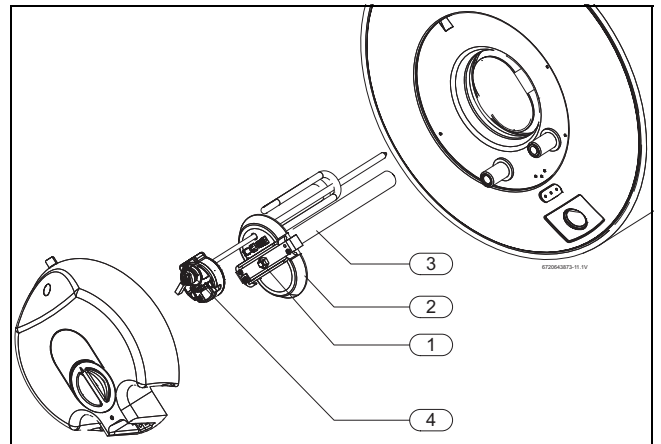

Fig. 13 Access and identifying internal components
- ▶ Unscrew the flange fastening nut (Fig. 13, [1]).
- ▶ Remove the flange from the inside of the appliance (Fig. 13, [2]).